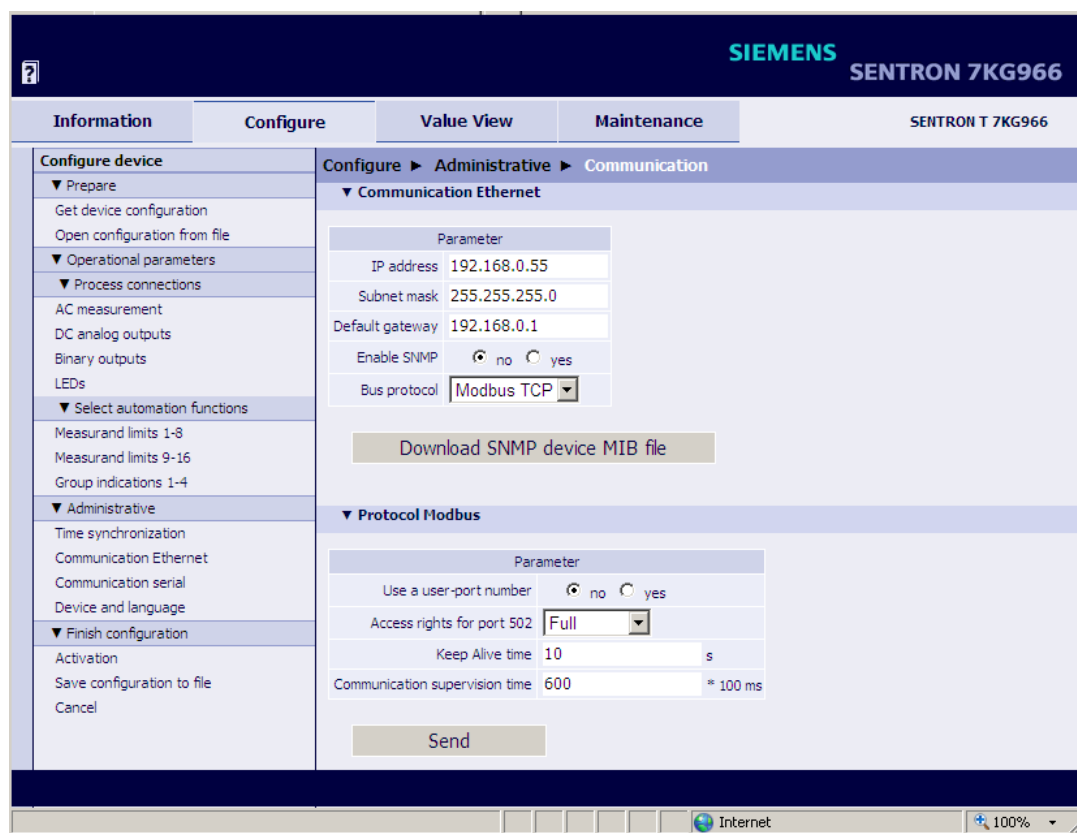

Fig. 7-35 Configure Tab, Communication Ethernet via Modbus TCP Input/output Window
- ✦ In the **Communication Ethernet** input/output window, click the **Download SNMP device MIB file** button (see figure 7-35).
Ethernet Communication with Bus Protocol Modbus TCP (see figure 7-35)